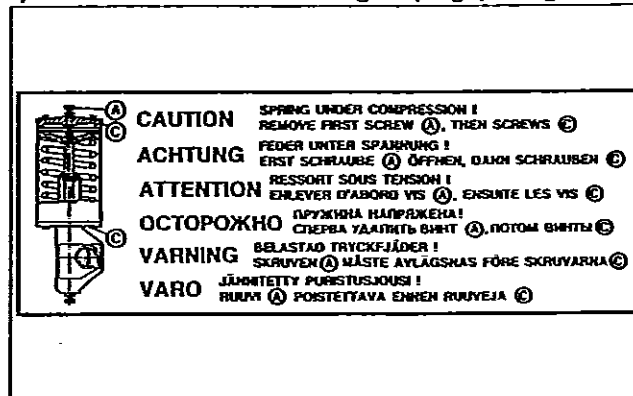

Fig. 9. Warning plate of the BJ actuator
The cylinder has a warning plate (43). When servicing the unit, check that the plate is in place and legible. See Fig. 9. Also check that the cylinder has the arrow sticker indicating the spring operating direction.